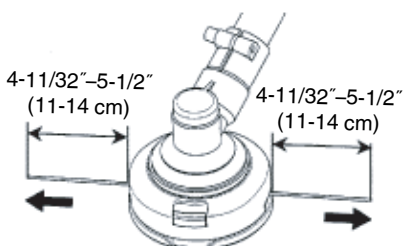

Fig. 42
- (7) The initial cutting line length should be approx. $4\text{--}11/32\text{--}5\text{--}1/2\text{''}$ (11–14 cm) and should be equal on both sides. (Fig. 42)